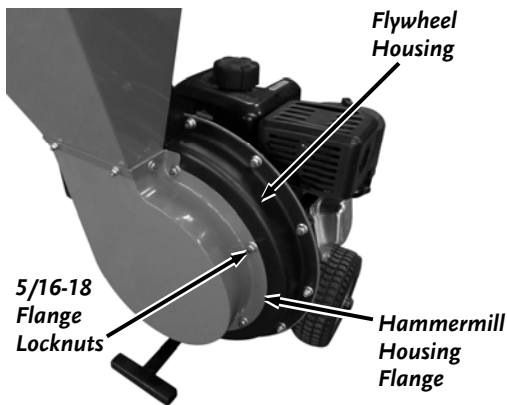
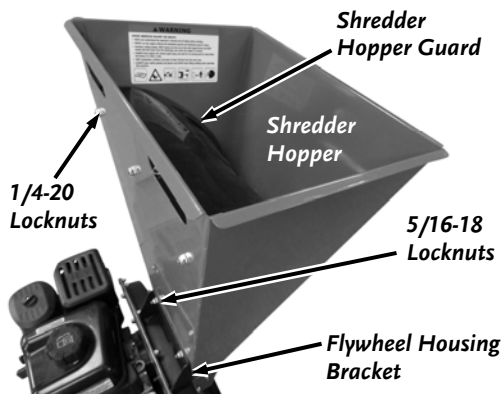

Figure 7
Figure 8
4. Position the Hammermill Housing/Shredder Hopper Assembly onto the Flywheel Housing studs (**Figure 7**) and the studs of the Shredder Hopper into the Flywheel Housing Bracket (**Figure 8**).
5. Check the fit between the Hammermill Housing Flange to the Flywheel Housing (**Figure 7**). If there are any noticeable gaps, continue to step 6. If there are no noticeable gaps, go to step 7.
7. Secure the Flange of the Hammermill Housing with seven 5/16-18 Flange Locknuts (**Figure 7**) and the Shredder Hopper studs (**Figure 8**) with two Locknuts using a 1/2" Wrench.